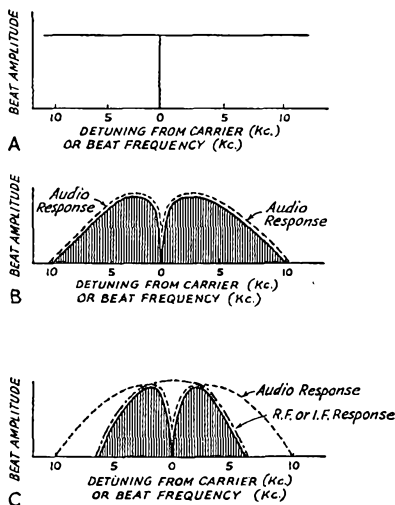

Fig. 2 — The effect of audio and r.f. or i.f. selectivity on a heterodyne beat note.
Of course, this beat note actually exists far beyond the range through which it is heard, as shown in Fig. 2-A, but because of the upper audio limits of response in the receiver and headphones, the audible portion of the beat is limited, as shown in the selectivity curve of Fig. 2-B, peaked where the response of audio amplifier and headphones is a maximum, and dropping off in the high- and low-frequency ranges. Additional sharpness of these peaks is obtained in the superheterodyne by increased r.f. and i.f. selectivity, as shown in Fig. 2-C.
(A) Same as Fig. 2-C, showing superheterodyne reception with the b.f.o. tuning to the center of the i.f. pass band. There are two points of maximum signal response, one above and the other below the zero-beat point.